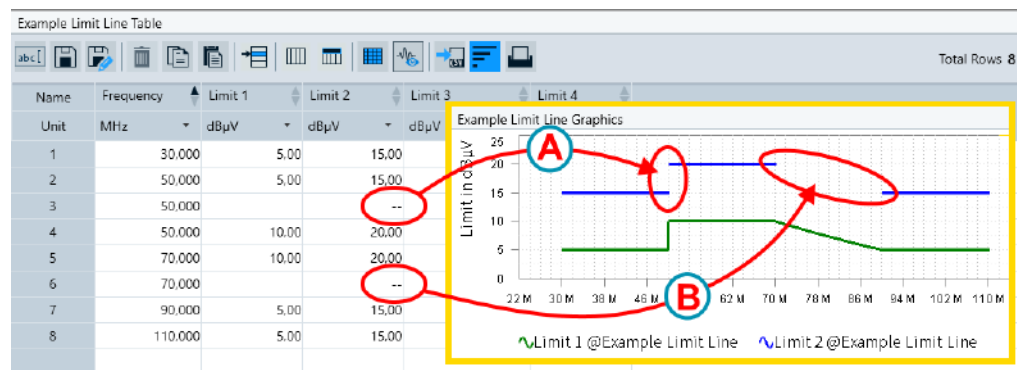

Figure 4-188: Examples of entries in a limit line table, and resulting graphics
- For a "vertical gap" (labeled (A) in Figure 4-188), use the same frequency as in the 1st row
- For a "horizontal gap" (labeled (B) in Figure 4-188), use any frequency between the 1st row and the 3rd row